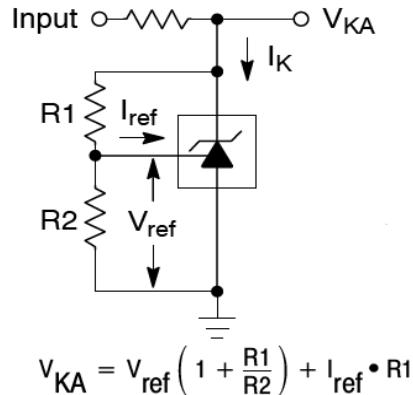

Figure 2: $V_{KA} > V_{REF}$
| Ratio of change in V_{REF} to change in cathode Voltage | $\Delta V_{REF}/\Delta V_{KA}$ | $I_K=10\text{mA}$, $V_{KA} = 16\text{V}$ to V_{REF} (Figure 2) | -- | -1.0 | -2.7 | mV/V |
| Reference Input current | I_{REF} | $R1=10\text{K}\Omega$, $R2=\infty$, $I_{KA}=10\text{mA}$ $T_A=$ full range (Figure 2) | -- | 0.25 | 0.5 | μA |
| Deviation of reference input current, over temp. | ΔI_{REF} | $R1=10\text{K}\Omega$, $R2=\infty$, $I_{KA}=10\text{mA}$ $T_A=$ full range (Figure 2) | -- | 0.04 | 0.8 | μA |
* When the device operating with two external resistors, R_1 and R_2 , (refer to Figure 2) the total dynamic impedance of the circuit is given by: